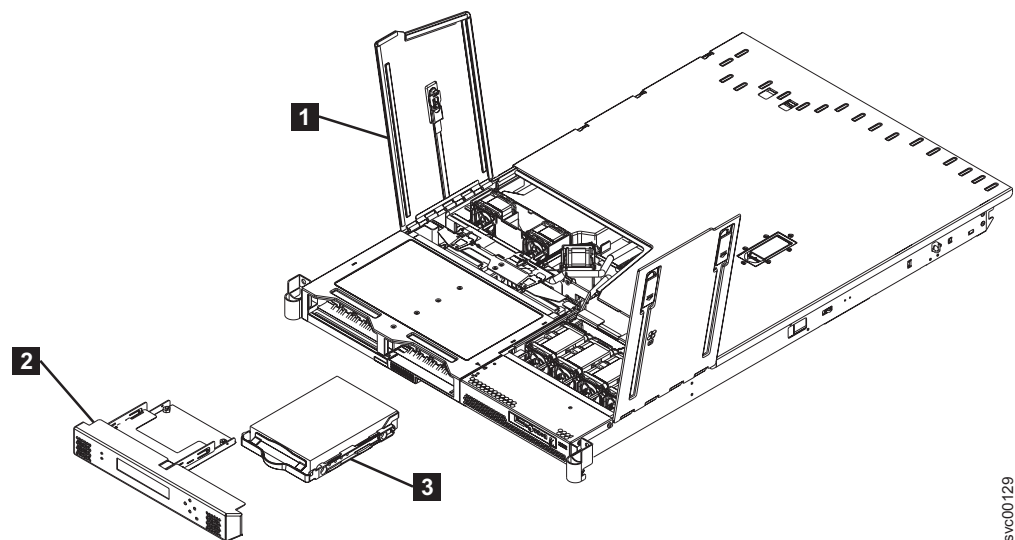

Figure 159. Removing the SATA disk drive
4. Open fan door A (1 in Figure 159).